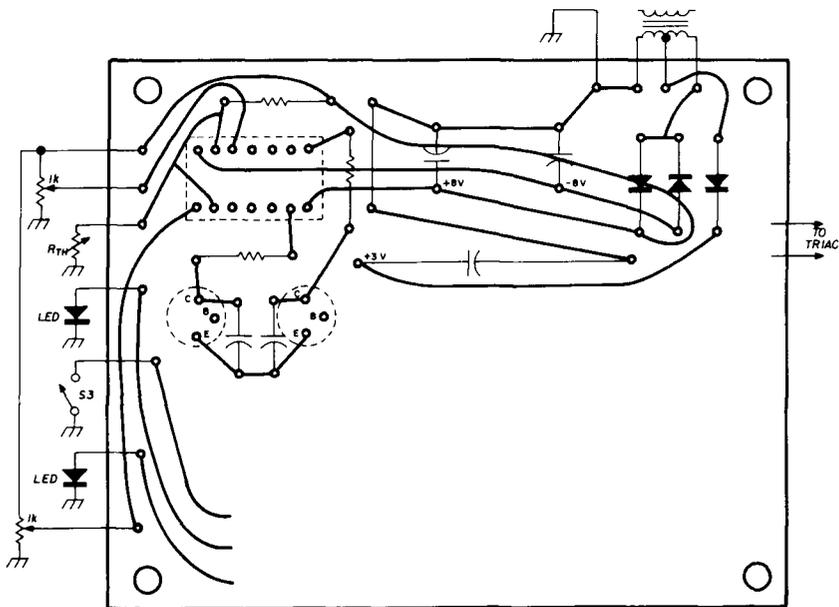

fig. 5. After choosing an initial layout begin sketching in the interconnecting wires. Avoid wiring crossovers.
Step 3 involves redrawing the schematic, replacing all symbols with full-size outlines of the components (see **figs. 5** and **6**). This must be done accurately; the use of graph paper with 0.1-inch grids is helpful in maintaining accuracy. The actual components should be on hand during this step so you can determine if all the parts will fit correctly.